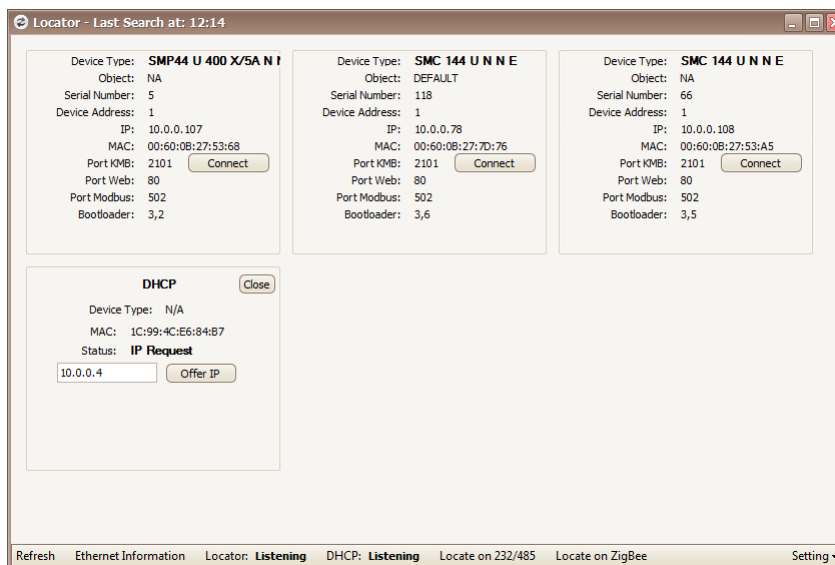

Figure 8: Window of *Locator* tool - provides automatic discovery of the supported instruments in a local network.
- (c) Ethernet: enter correct IP address and port (default: 2101). If you do not know the right values you can use *Locator*⁴ (fig. 8).